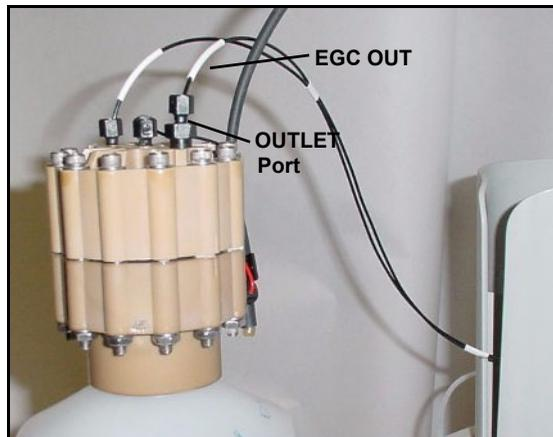

Figure B-43. EGC Outlet Connection
16. Connect the **EGC OUT** line from the holder to the **OUTLET** port (see Figure B-43).